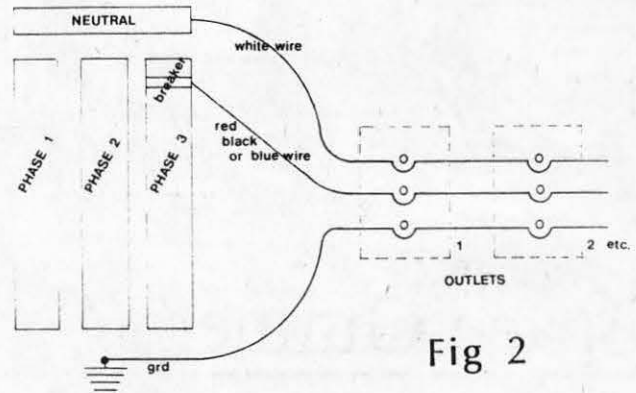

Fig 2
3) Figure 1. shows a "Sine Wave". This wave represents the power signal going into the computer. Most power panels use a three-phase system as shown in Figure 2.